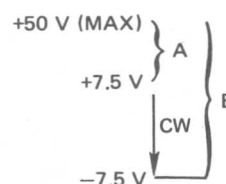

Figure 2-3. Range of Triggering Voltage
16. **TRIG LEVEL Control** — A continuously variable adjustment of the TRIG IN circuitry. When full ccw, approximately a positive going pulse of +7.5 V (A, Figure 2-3) or greater voltage is required for triggering. In the full cw position, a positive going pulse of approximately -7.5 V (B, Figure 2-3) or more positive voltage is required for triggering. In the GATED mode, the generator will begin to run continuously at some position of the control cw past 12 o'clock. When using the MAN TRIG, this control must be ccw of the midpoint.